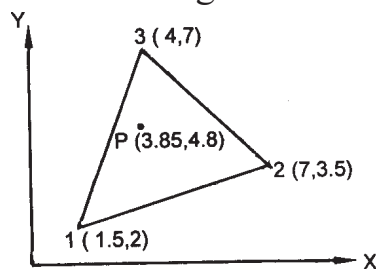

Fig.5
- b)** Evaluate the shape functions N_1 , N_2 and N_3 at the interior point P for the triangular element shown in Fig. 5. [8]